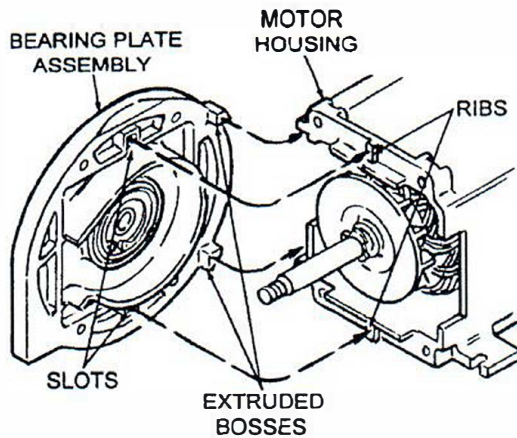

Figure 29 Aligning Bosses On Motor Housing and Slots in Bearing Plate
- G. *See Figure 29.* Install bearing plate assembly.